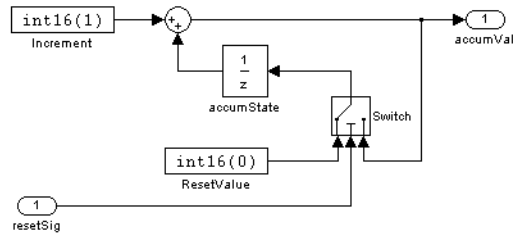

Figure 9-16: Integer Accumulator with Reset via External Input
Figure 9-16 shows an efficient way to add reset capability to the accumulator. When resetSig is greater than or equal to the threshold of the Switch block, the Switch block passes the reset value (0) back into the accumulator.